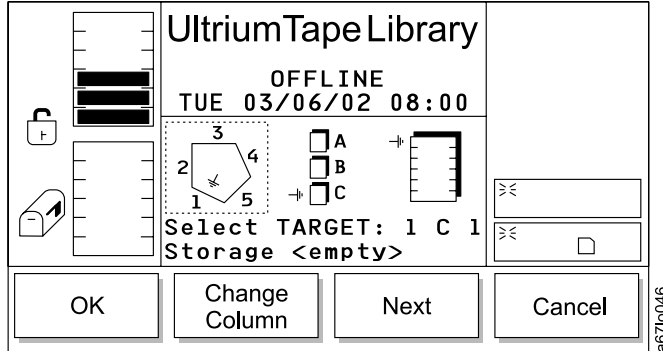

Figure 85. Slot Dialog
- If **Slot** is selected, the Slot Dialog displays (see Figure 85 on page 94).
- If **Next** is selected, the current source parameter changes from slot to column as shown in the Slot Dialog (see Figure 85 on page 94).
- If **OK** is selected, the Slot Dialog displays (see Figure 85 on page 94).